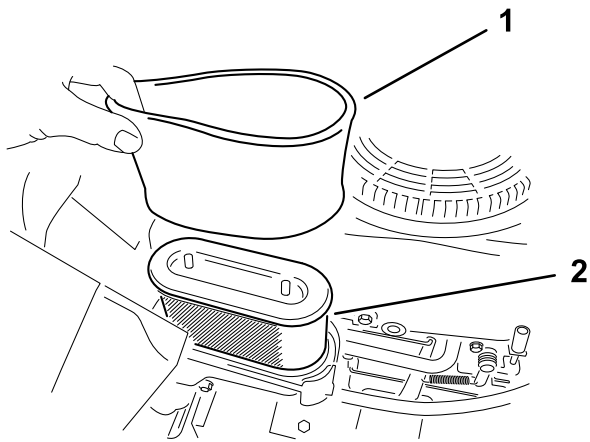

Figure 39
5. Carefully remove the foam and paper filter elements from the air-cleaner housing (Figure 39).
- Note:** If it is very dirty, replace the paper element (Figure 39).
1. Install the foam filter onto the paper filter (Figure 39).